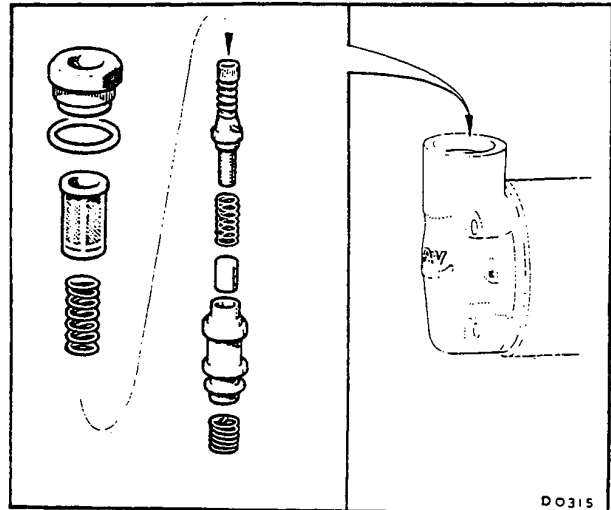

Fig. 3
46. Assemble the regulating valve components to the end plate in the order shown in Fig. 3.